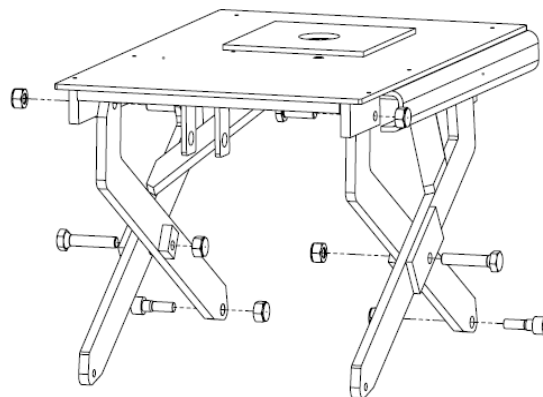

Figure 1.7
- c.) Steps d.) through h.) are repeated for each leg bolt (see Figure 1.7).